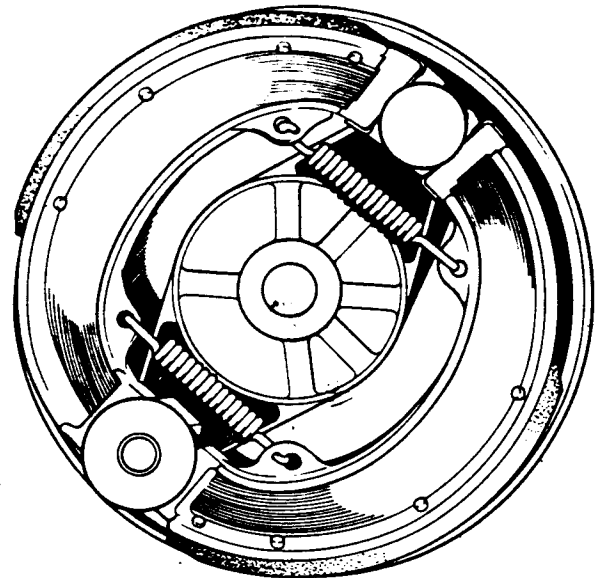

Fig. F5. Position of brake shoes
To re-assemble the brake shoes to the brake anchor plate first place the two brake shoes on the bench in their relative positions. Fit the return springs to the retaining hooks, then taking a shoe in each hand (see Fig. F5) and at the same time holding the springs in tension, position the shoes as shown over the cam and fulcrum pin and snap down into position by pressing on the outer edges of the shoes.
**Note.** When replacing the brake shoes, note that the leading and trailing brake shoes are not interchangeable and ensure that they are in their correct relative positions as shown in Fig. F5.